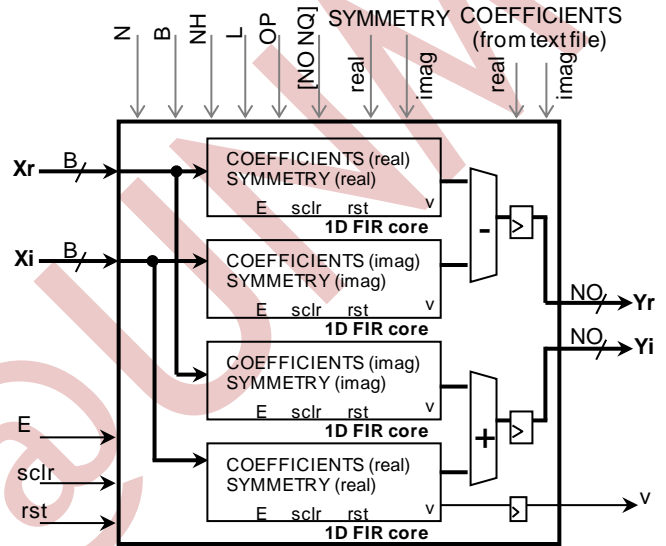

Figure 3. Complex Filter IP
- The complex IP is called 'complex_FIRDA'. Figure 3 shows the IP with the mode clcH: complex input, complex coefficients. 'sclr' clears the input register chain of each 1D FIR core. 'rst' clears the shift register for 'v' (to protect it after PR).